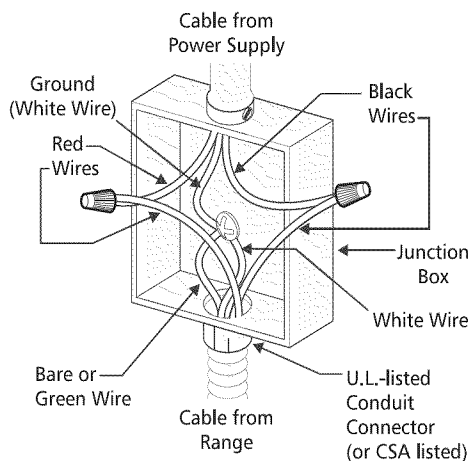

Figure 6 – GROUNDED NEUTRAL
1. Where local codes permit connecting the cabinet-grounding conductor to the neutral (white) junction box wire (see Figure 6)